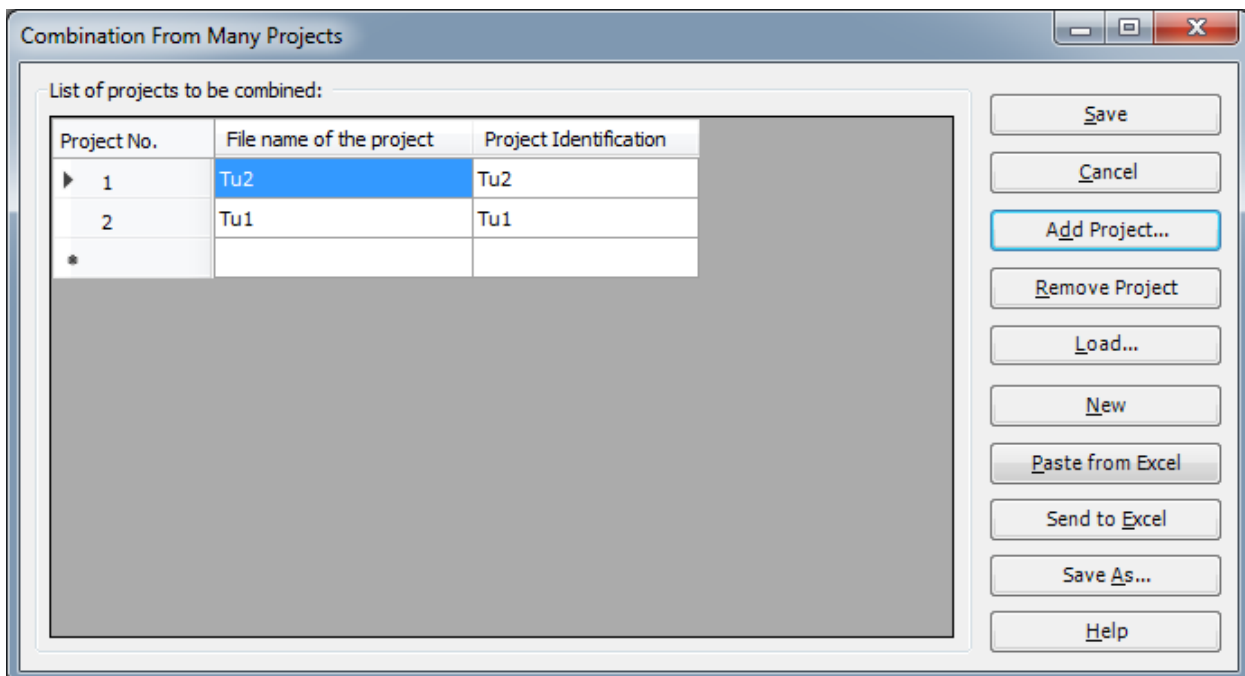

Figure 13.53 "Combination From Many Projects" list box
The settlements are now displayed as contour lines for the second case of the analysis as shown in Figure 13.53.
- Select and check "Combination From Many Projects", Figure 13.53 appears